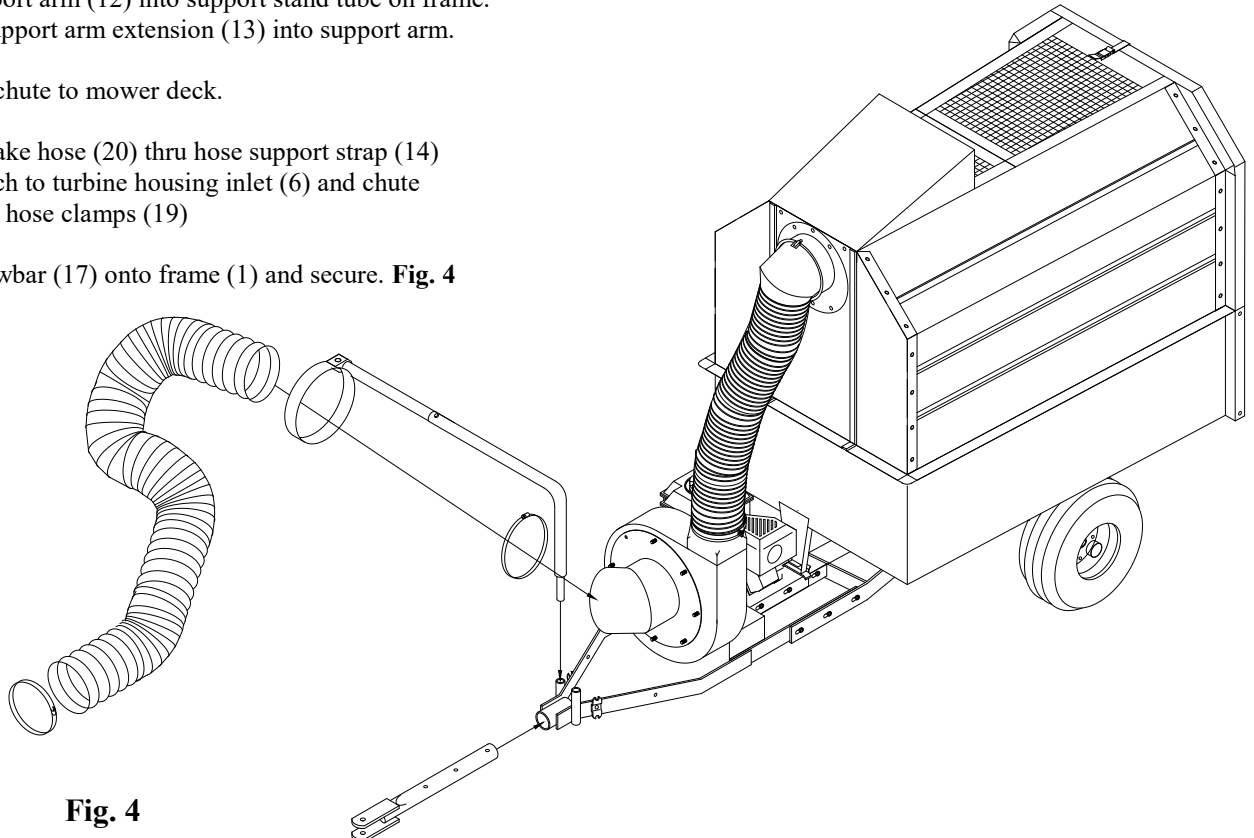

Fig. 4
6. Fit support arm (12) into support stand tube on frame. Slide support arm extension (13) into support arm.
8. Slip intake hose (20) thru hose support strap (14) and attach to turbine housing inlet (6) and chute using 6" hose clamps (19)
9. Slip drawbar (17) onto frame (1) and secure. **Fig. 4**